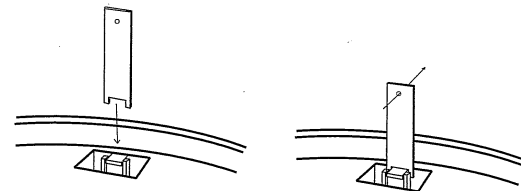

Figure 4
9.5.2 Remove alarm cover by using the special tool provided on the three locking tabs on the alarm base. (see figure 4)